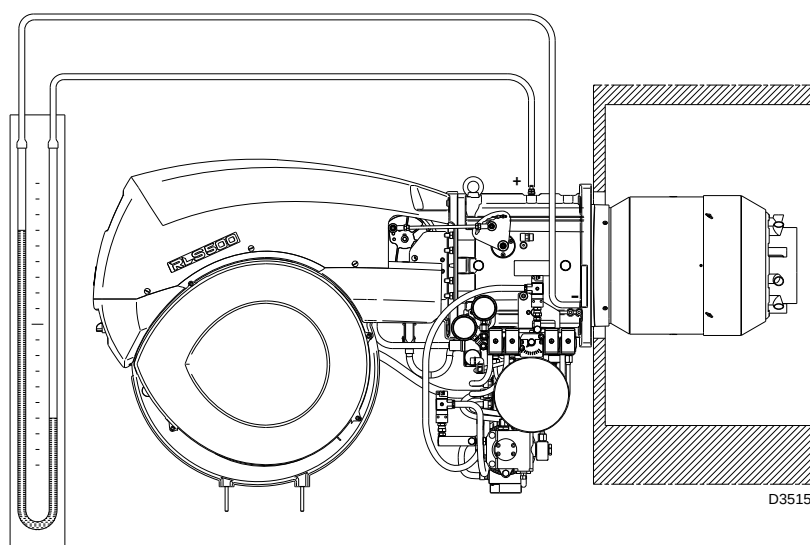

Fig. 35
- Fit a U-type manometer or a differential pressure gauge (Fig. 35), with the (+) fitting on the header gas pressure tap and (-) fitting in the combustion chamber.
The arrival of gas at the sleeve is indicated by the U-type manometer (Fig. 35).